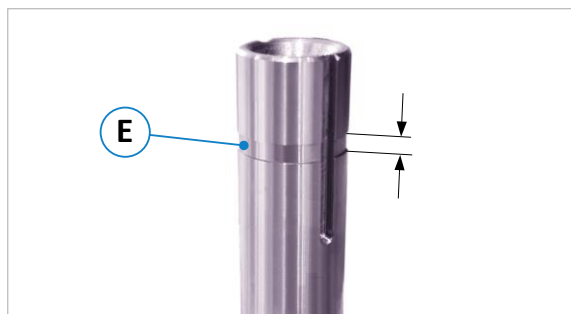

Figure 16: Marking for upper spacer ring
1. Loosen the clamping screw (C) on the quick-release nut (M) with the supplied SW4 pin spanner.
2. Then fully tighten the fixing screw (F) by hand and remove the quick-release nut (M) by taking it out.
3. Remove the spacer rings (D) and put on the new cutter head.
4. Put on the required spacer rings (D), if necessary. Place enough spacer rings so that the upper clamping surface of the upper ring is in the area (E) of the marking groove shown in ⇒ Figure 16.
5. Then put the quick-release nut (M) back on and tighten the fixing screw (F) by hand.
6. Now tighten the clamping screw (C) with the SW4 pin spanner → Tightening torque = **12 Nm**.
**With 12 Nm tightening torque of the clamping screw (C), the cutter is clamped with approx. 30 kN (= 3 t).**
- After the tool change, unlock the emergency stop button (4) again.